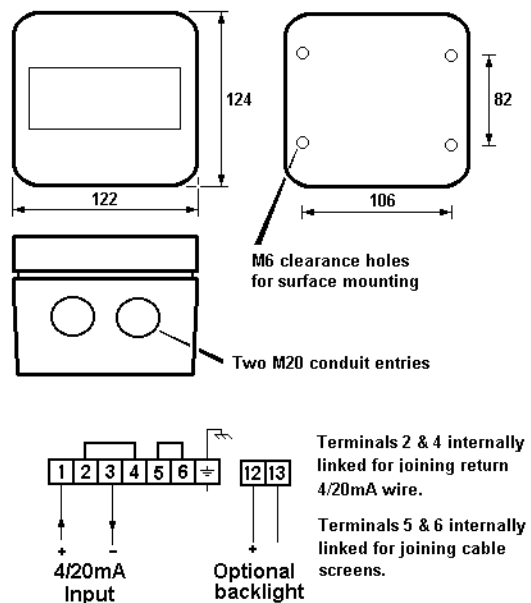

Fig 5 Dimensions and terminal connections
- Connect the field wiring to the terminals as shown in Fig 5.